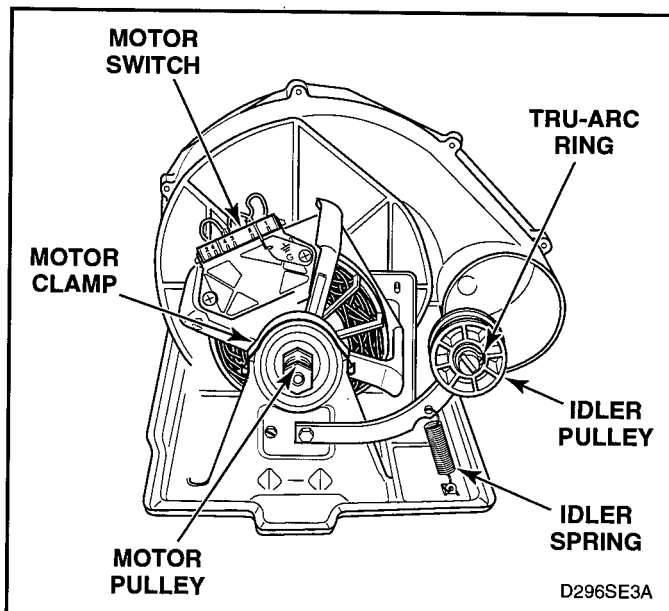

Figure 5-18
- Disengage motor wire harness terminal block from motor switch by pressing in on the movable locking tabs (located on each end of the terminal block) and pulling away from motor. See figures 5-18 and 5-20.
- Motor pulley and idler pulley assemblies. See figure 5-18 for motor and idler pulley removal.
2. Disconnect ground wire from motor. See figure 5-18.
3. Pry two motor clamps off motor mounting bracket with screwdriver. See figure 5-18, then lift motor out of mounting bracket.